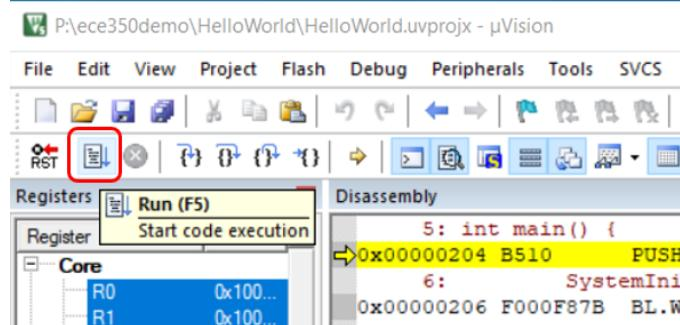
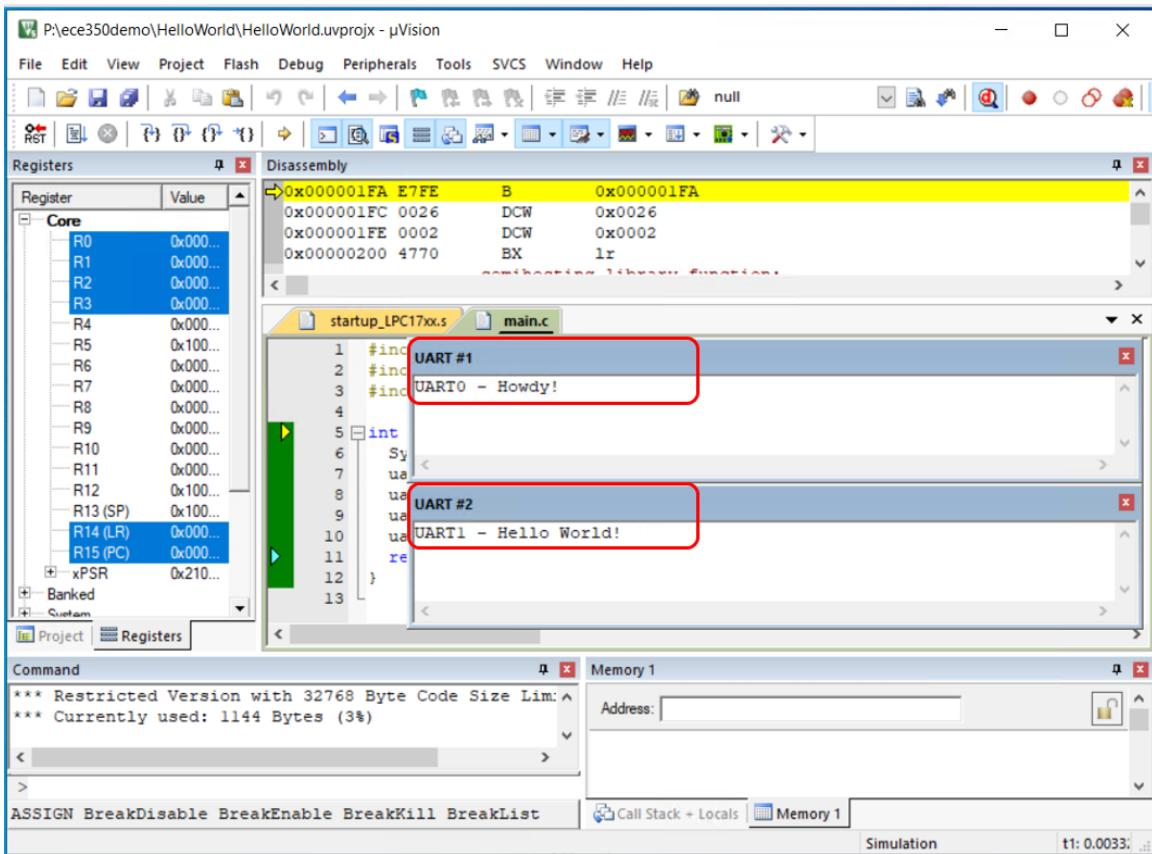

Figure 7.23: Keil IDE: Debugging. The Run Button.
Figure 7.24: Keil IDE: Debugging Output.
4. Press the “Run” button on the menu to let the program execute (see Figure 7.23). You will see the output of UART0 appearing in UART1 simulator window and the output of UART1 appearing in UART2 simulator window (see Figure 7.24). Note that we moved the UART windows from their default positions on the simulator for better view.